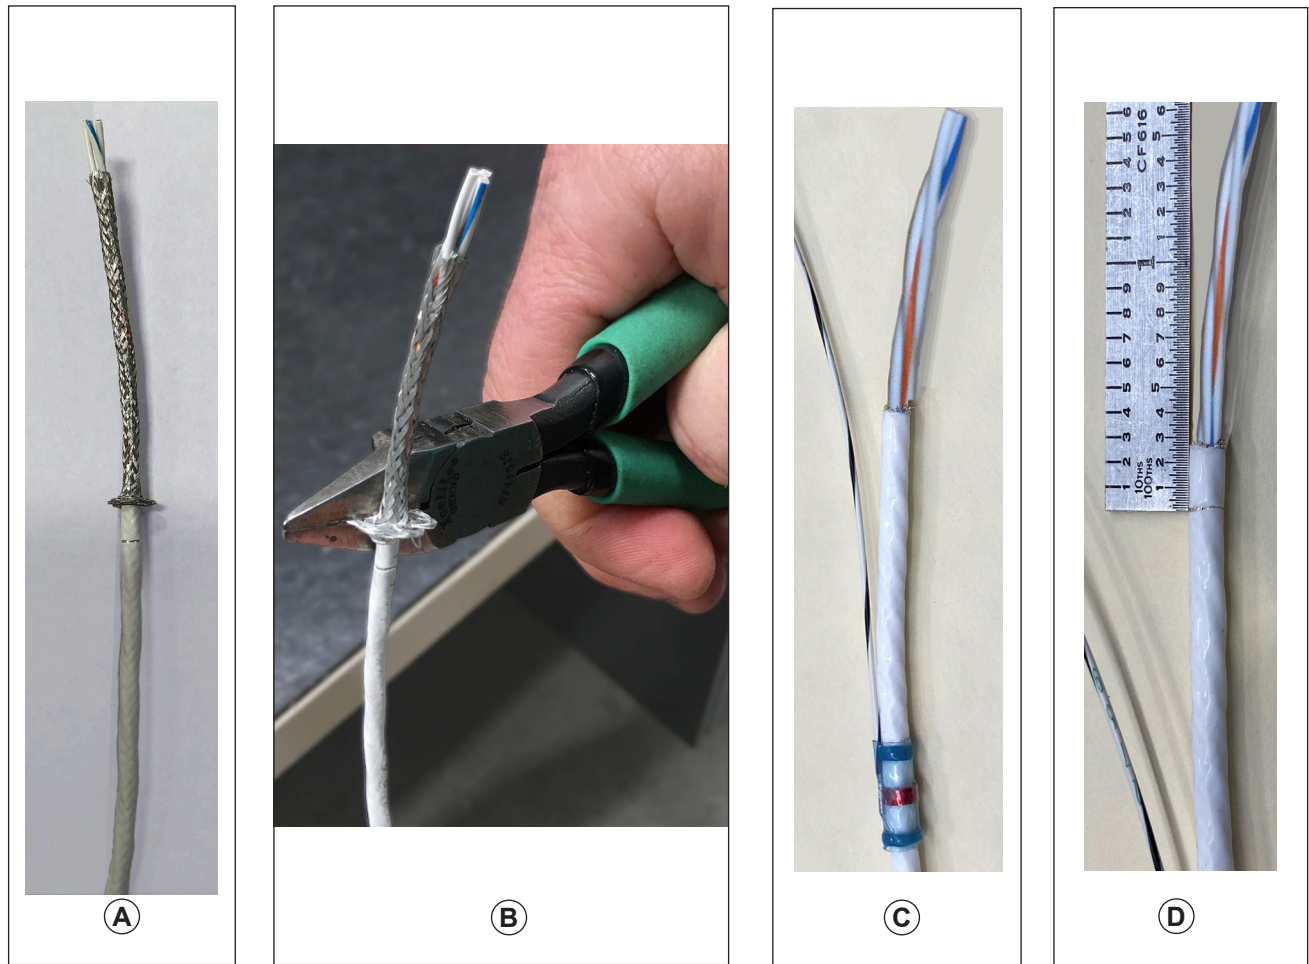

FIGURE 7 Removing outer jacket & braided shielding
19. Refer to Figure 7. On bare end of D845-3 harness assembly wire (-2886): Lightly score (cut without fully penetrating) white outer jacket approximately 1.75 inches from end. Twist scored jacket until score opens, then remove jacket to expose underlying, braided shielding. Push shielding toward remaining jacket to create flange in shielding (A). Using cutters as shown in (B), remove shielding flange then slide off loose shielding to expose inner, insulated wires. Verify complete removal of shielding by inspection using 10X magnification.
20. Remove outer reinforcing fibers, spread inner wires, and remove inner reinforcing fibers. Slide a B267-3 terminator a few inches over remaining jacket so attached black-striped shield drain wire points toward exposed inner wires (C). Score jacket ¼ inch from stripped jacket end, being careful not to damage shielding or internal wires (D). Remove scored ¼ inch jacket piece, exposing shielding ¼ inch beyond outer jacket.